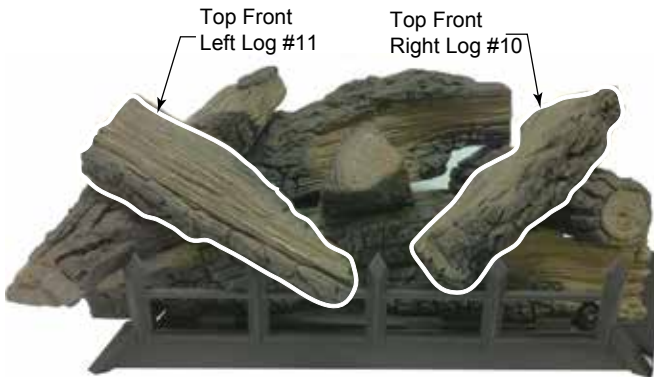

Figure 7
10. Place top front right log (#10) onto mid right log (#6) by placing notch on bottom of log onto locating block on log #6. Rest bottom end of log onto grate bar. Figure 7
11. Place top front left log (#11) onto mid left log (#8) by placing notch on bottom of log onto locating block on log #8. Rest bottom end of log onto grate bar. Figure 7